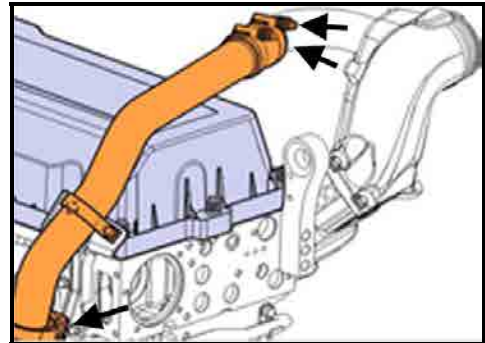

FIGURE 3
2. Remove the EGR crossover pipe (3 clamps, fig.3).